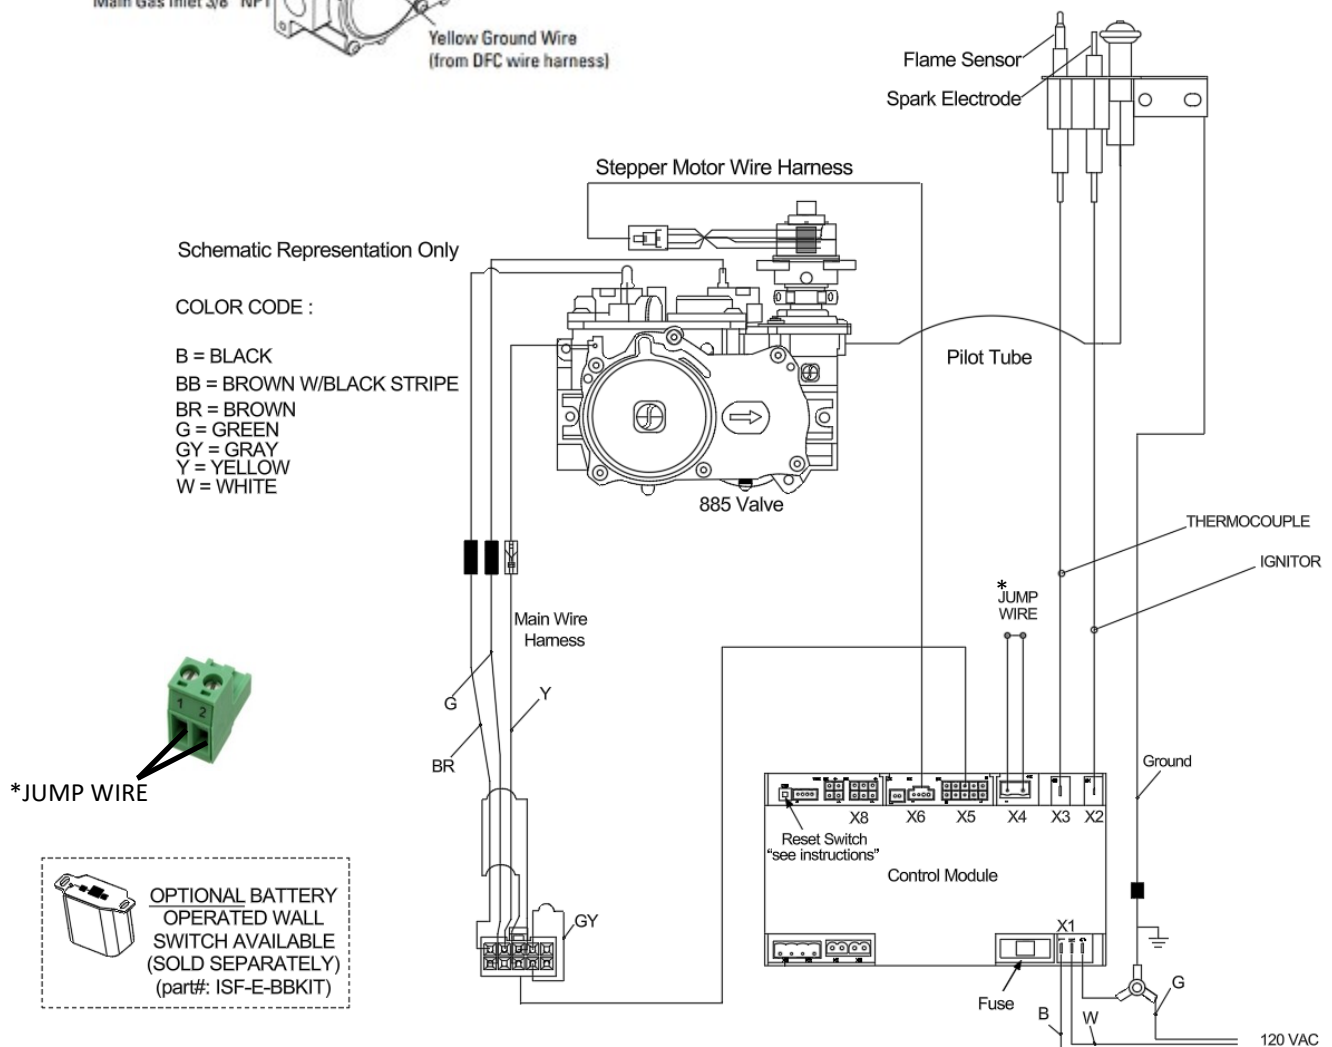

FIGURE 10
15. Install the jumper wire on Terminal X4 on the control module. Once X4 is jumpered, the REMOTE transmitter functions as a burner and pilot override switch. **(Figure 10)**